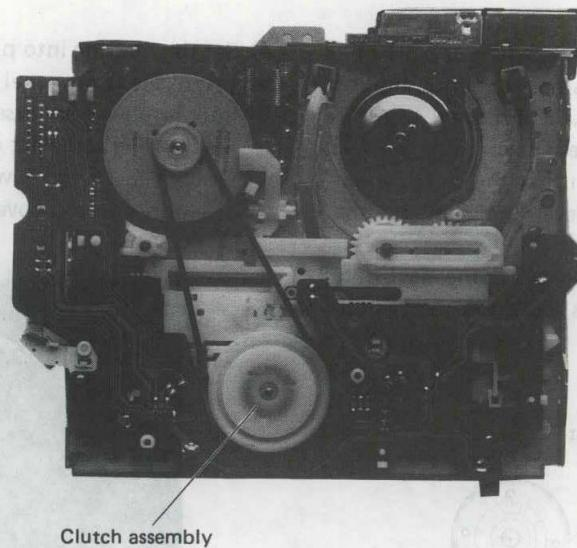

Fig. 2-3-16
- 4) At the bottom of the deck turn the clutch assembly (Fig. 2-3-16) counterclockwise to absorb the slack tape within the cassette.